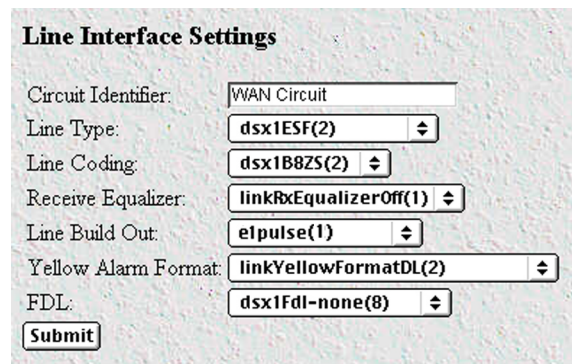

Figure 33. WAN Circuit Configuration window, Line Interface Settings section
2. Link: 1 corresponds to Line 1 on the RAS. This is the primary link for dial-in callers. Under Link 1, Click on Configuration then Modify. The Line Interface Settings section of the WAN Circuit Configuration window appears (see figure 33).
1. Click on the Line Type pop-up menu (see figure 33 on page 49) and choose from the following options:
- For an E1/PRI line your options will be either dsx1E1(4) or dsx1E1-CRC(5)
- For an E1/R2 line your options will be either dsx1E1-MF(6) or dsx1E1-CRC-MF(7)
2. Click on the Line Coding pop-up menu (see figure 33 on page 49) and choose either dsx1AMI(5) or dsxHDB3(3). Most installations will use HDB3.
3. Click on the Line Build Out pop-up menu (see figure 33 on page 49) and select e1pulse(1).
4. Click on Yellow Alarm Format pop-up menu (see figure 33 on page 49) and choose from the following options:
2. Link: 1 corresponds to Line 1 on the RAS. This is the primary link for dial-in callers. Under Link 1, Click on Configuration then Modify. The Line Interface Settings section of the WAN Circuit Configuration window appears (see figure 33 on page 49).
- 2. Click on the Line Coding pop-up menu (see figure 33 on page 49). The most common options are: dsx1B8ZS and dsx1AMI. For ISDN PRI service, set the line coding to dsx1B8ZS.
- 3. Click on the Line Build Out pop-up menu (see figure 33 on page 49) and select t1pulse0dB(1).